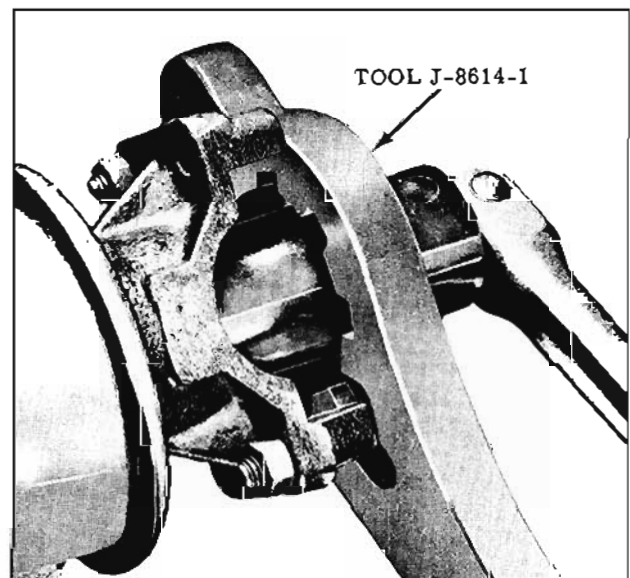

Fig. 10-109 Removing Pinion Nut
4. Remove companion flange nut using Holding Tool J-8614-01 to hold flange. (Fig. 10-109)
3. Remove companion flange nut using Tool J-8614-01 to hold flange. Remove washer. (Fig. 10-109)
2. Install Holder J-8614-01 on companion flange by using two 5/16" x 2" bolts with flat washers. Remove pinion nut and washer. (Fig. 10-109)